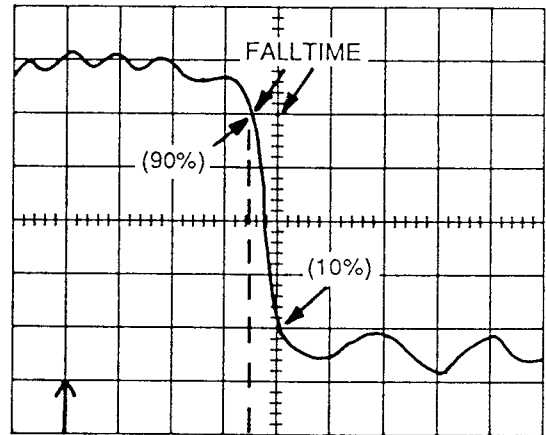

Fig. 4-19. Standard faltime
3. Slowly turn the ZERO REF (SET) control clockwise until the pulse is on screen (see Fig. 4-19).
4. Set the pulse with the ZERO REF (SET) control (do not move the POSITION control) so that the bottom right corner of the pulse is touching any vertical graticule line and the second horizontal graticule line up from the bottom (see Fig. 4-19).
5. From the point at which the pulse intersects the second horizontal graticule line up from the bottom (10%), to the point where it intersects the second horizontal graticule line down from the top (90%) can be no more than 0.7 (metric 0.8) major divisions (see Fig. 4-19).